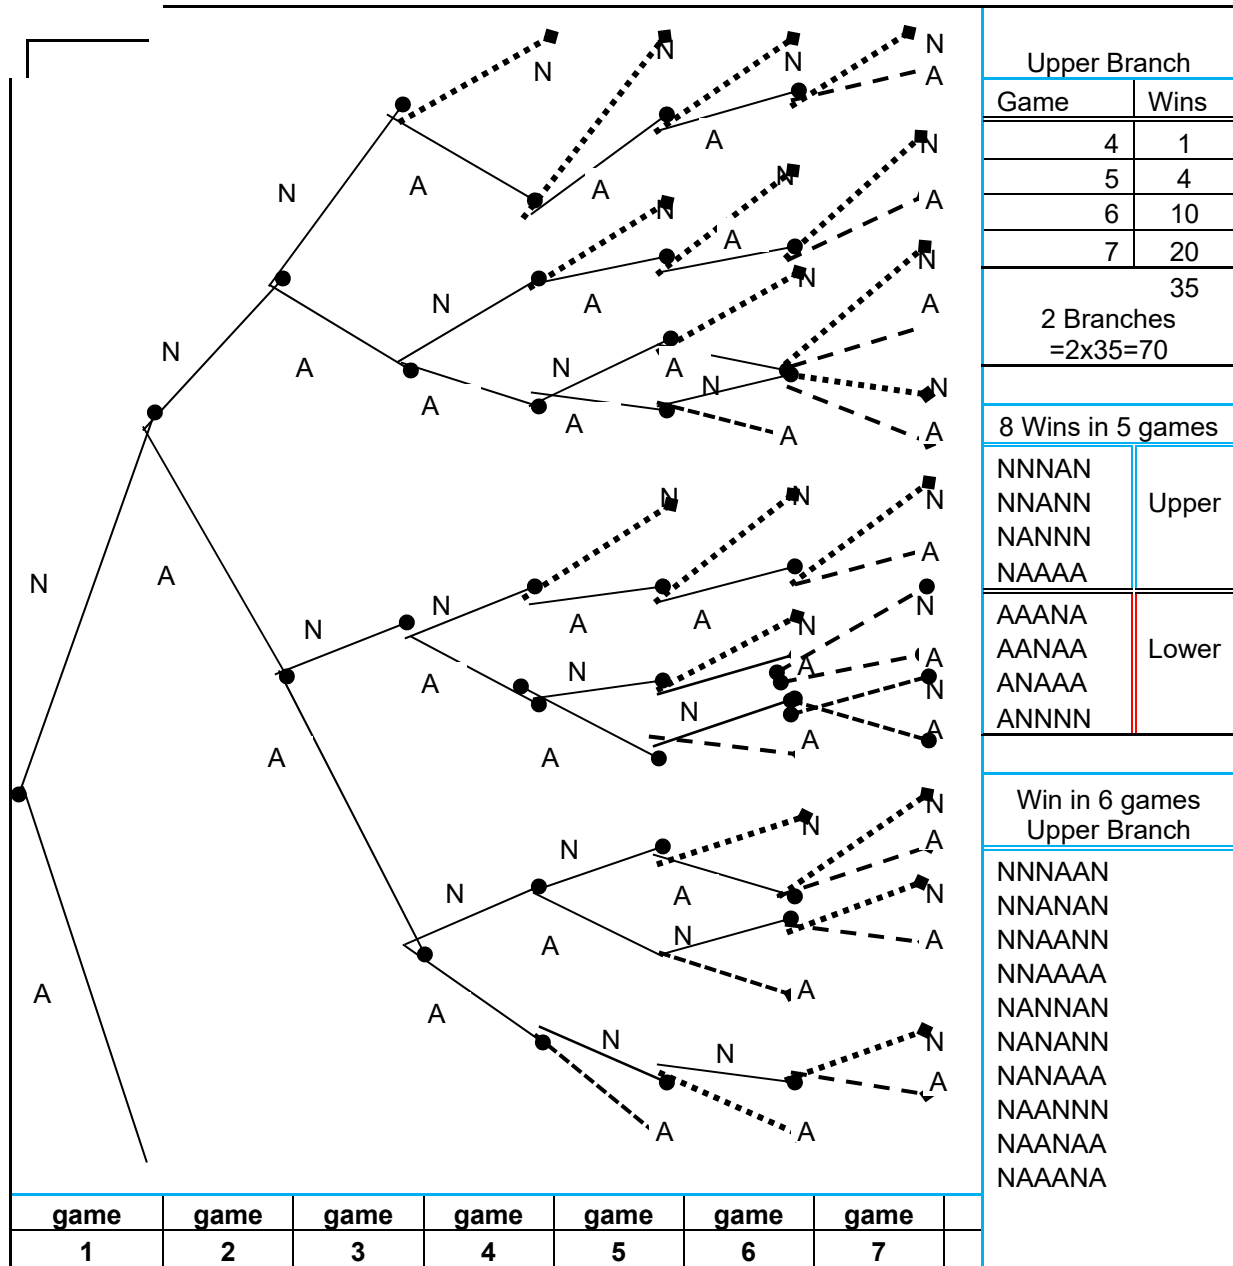

Figure: 15: Tree Diagram of the Seven game World Series Between National and American Leagues
Figure 15 is an example of Tree Diagram approach for the Seven-Game World Series between the National League (N) and the American League (A). The tree shows only one branch, the upper branch, corresponding to the National League
The tree diagram (Figure 15) shows the upper branch of the tree for the National League and the possibilities of winning the series in 4, 5, 6, or 7 games.